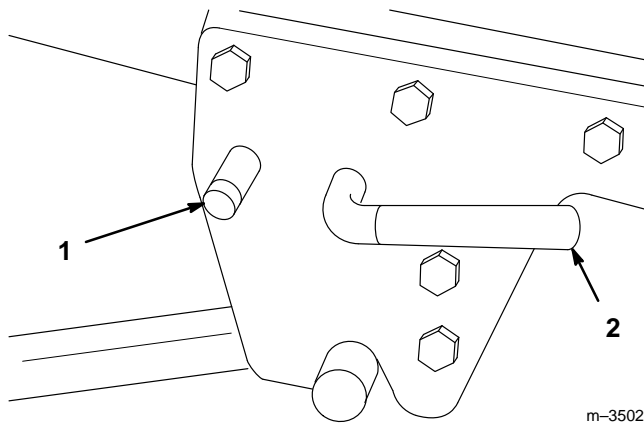

Figure 22
9. Press the release button on the mid Attach-A-Matic™ and turn the lever clockwise to open the latches (Fig. 22). Remove the jack shaft assembly.